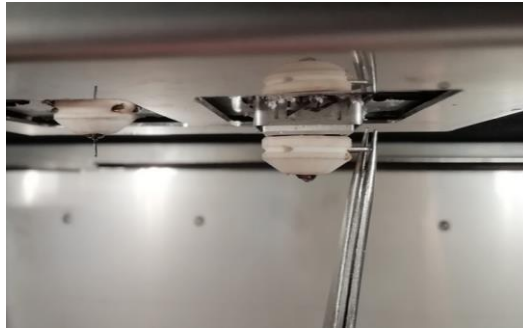

Fig. 88 Removing the cotter pin
10. Remove the metal cotter pin securing the hotend tip cover with tweezers or combination pliers (Fig. 88).